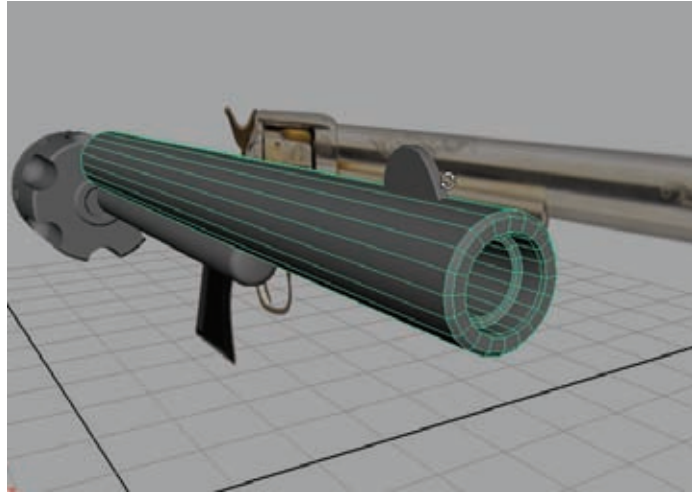

Figure 3.12
10. Do another extrusion and scale it inward slightly. Do one last extrusion and this time move the face all the way back into the rear of the barrel. When you're done, you should have something like Figure 3.12.